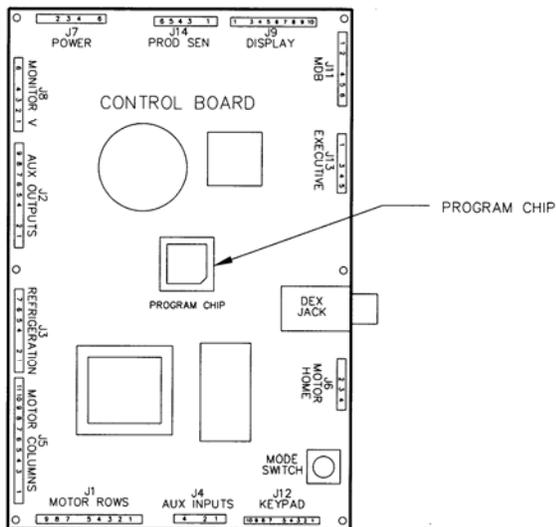

Figure 8.1 Replacing Program Chip
2. Locate the program chip (refer to Figure 8.1).